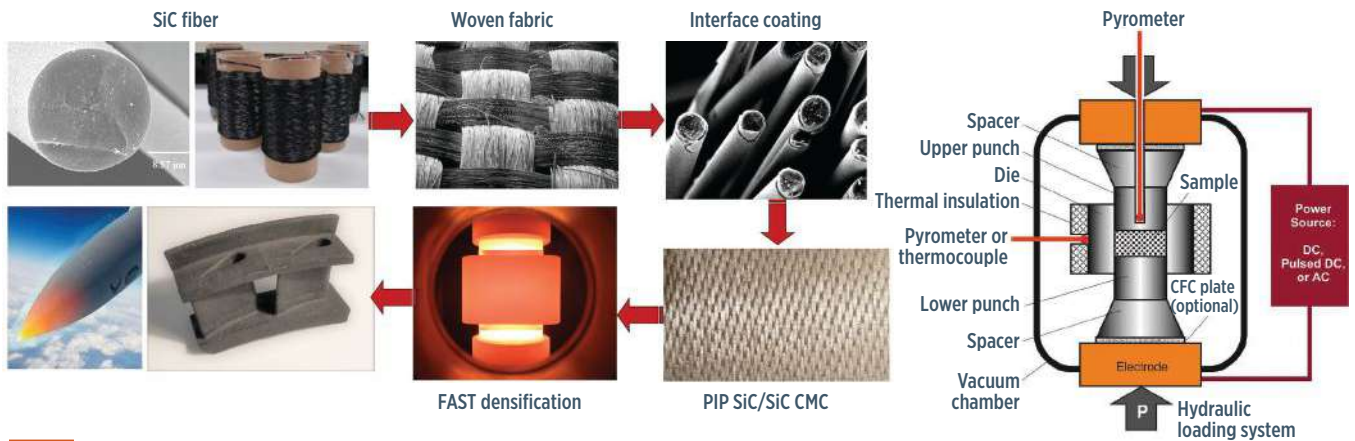

FIG. 3 FAST SiC/SiC parts
A possible pathway for producing UHTCMC materials is spark plasma sintering (SPS), a process used to synthesize metals and ceramics by applying high amperage, pulsed direct current (DC) to powder in a sintering die (Fig. 3). Developed in the 1960s by Sumitomo Coal Mining Co., SPS was reported to achieve uniform, high densification in one-tenth to one-twentieth the time compared to conventional methods and use 60-80% less electricity. Modified to use a pulsed DC or AC power source, the process became known as field-assisted sintering technology (FAST) in the 1990s, according to FCT Systeme (Frankenblick, Germany), which claims it developed a novel process and the first FAST furnace in Europe in 2002. FAST reportedly enables the furnace to be “tuned” to the specific material being processed, which makes heating even more efficient than SPS.
To prove the process works and measure critical properties, MATECH started with simple geometries including round discs and rectangular plates. More complex geometries, such as the aeroengine doublet vane shown in Fig. 3, are possible using graphite tooling within the FAST die. This was already designed for use with PIP but not yet used to create a FAST-densified part. The FAST process time, pressure and temperature for a shaped part is the same as a flat plate geometry.